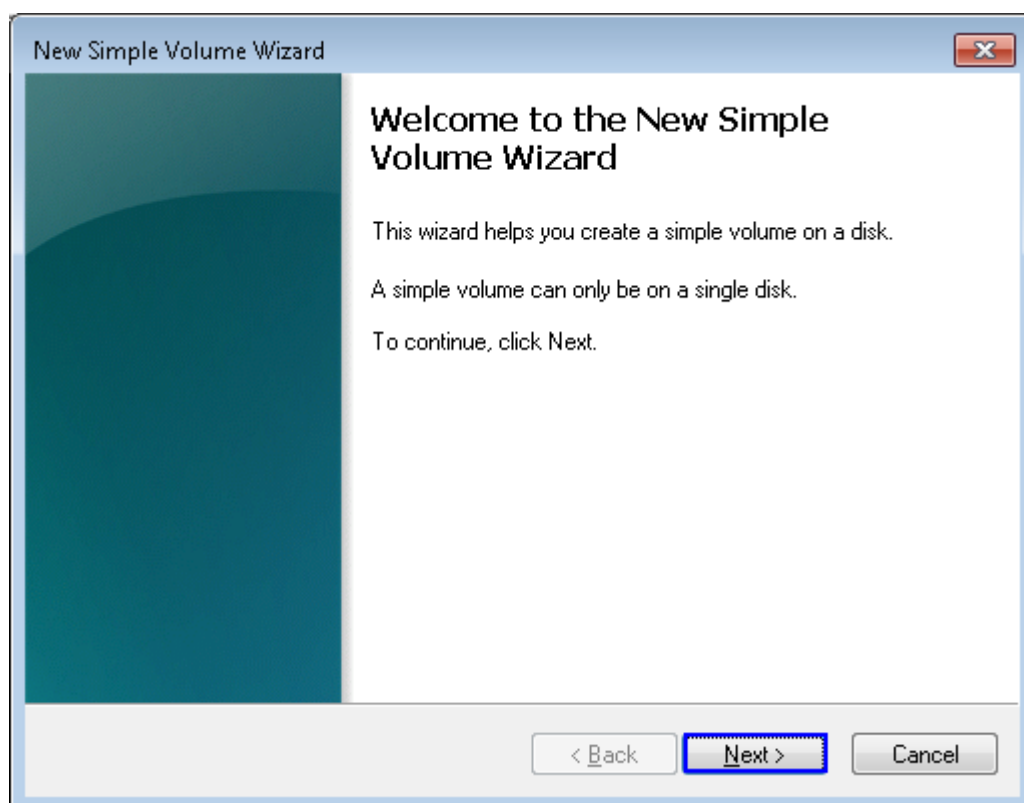
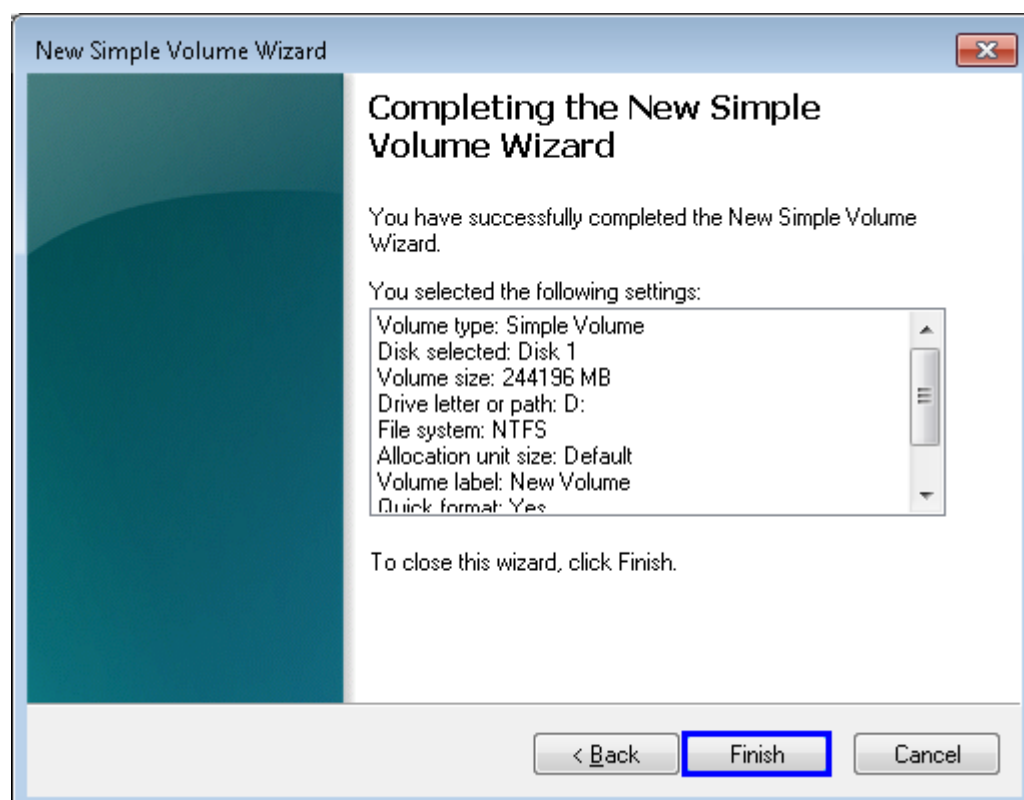

Figure 3-4 New Volume Wizard
Figure 3-5 Completing New Volume Wizard
- “New Simple Volume Wizard” window will be displayed. Click “Next” button until completing window, as shown in Figure 3-4 and Figure 3-5.